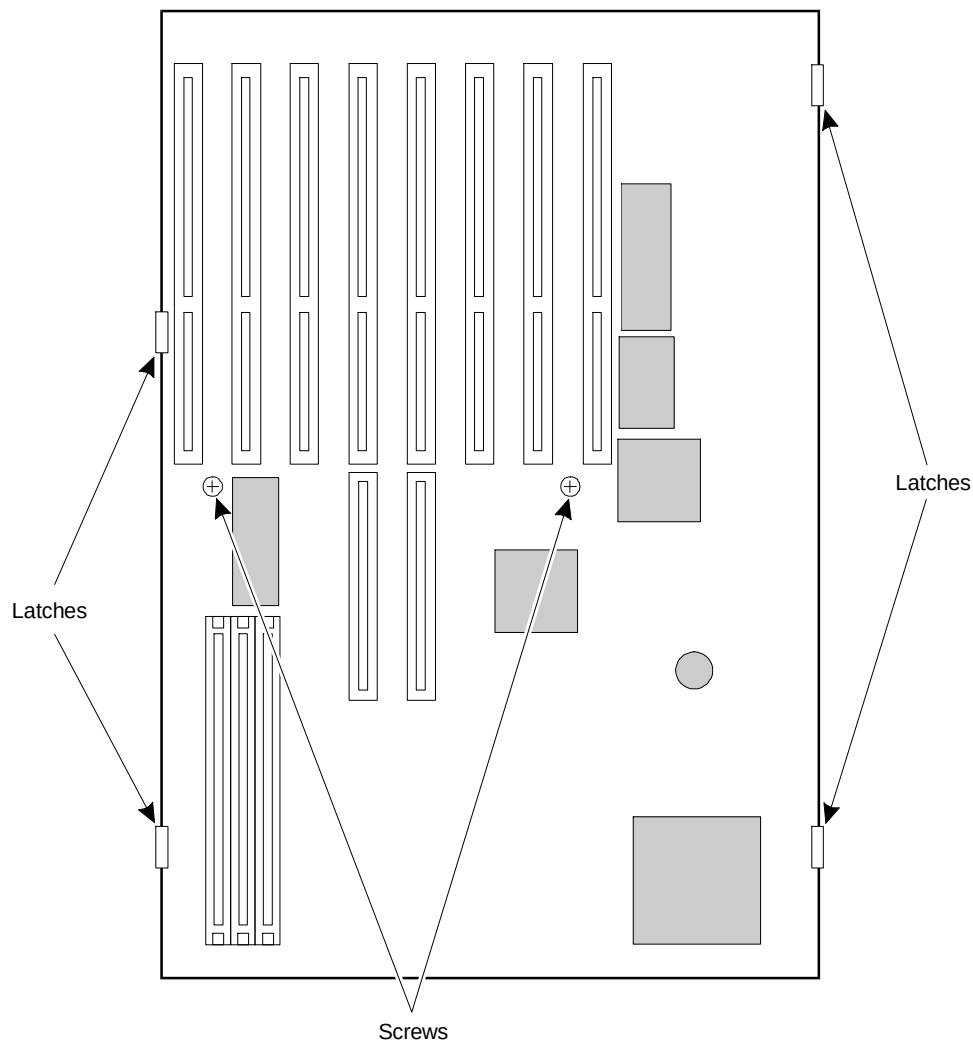

Figure C-7. Screw and Latch Locations on the System Board
5. Remove the two screws from the system board as shown in Figure C-7 on page C-16 below.